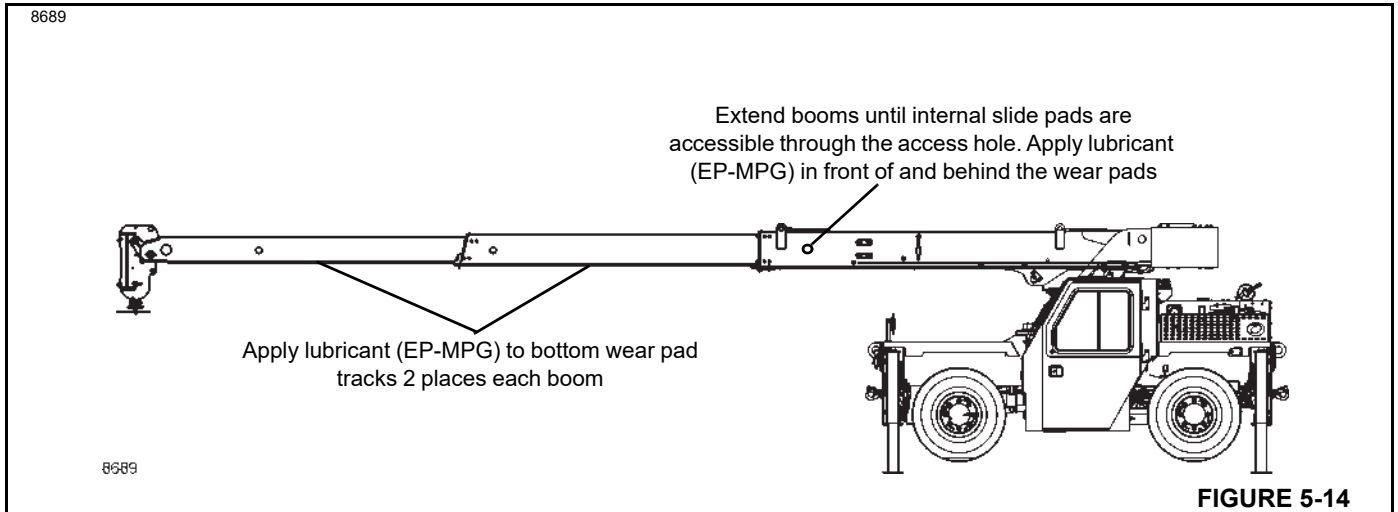

FIGURE 5-14
4. Apply bronze anti-seize, or equivalent, to the boom sliding surfaces (Figure 5-14) on the boom sections. Only use a small amount of lubricant for best results.